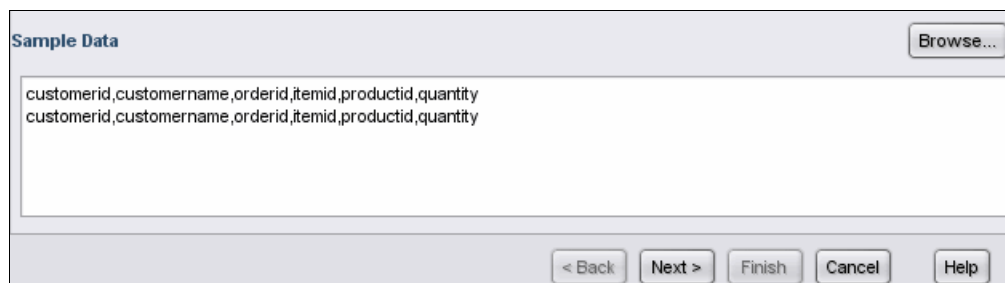

Figure 12-27 Providing sample data for the flat file wizard
3. For the sample data, click **Browse**, and then select the template file that you just created. This step loads the file content into the Sample Data container. You can also type the sample data without creating a template file. Refer to Figure 12-27. Click **Next**.